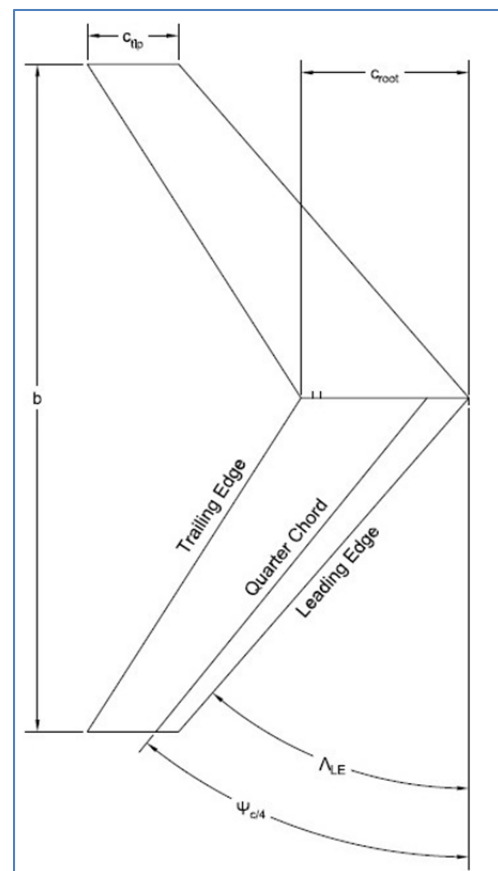

Figure 1 - Geometry of a Flying Wing
To allow for sufficient structural wing area at the root, the taper ratio (λ) of this airplane will be fixed at 0.7 and the root chord (c_{root}) must be greater than 15 cm. For stability purposes the wing sweep at the quarter-chord ($\psi_{c/4}$) will be 0.4 and the aspect ratio (AR) must be between 4 and 12. Figure 1 shows a labeled drawing of a flying wing.